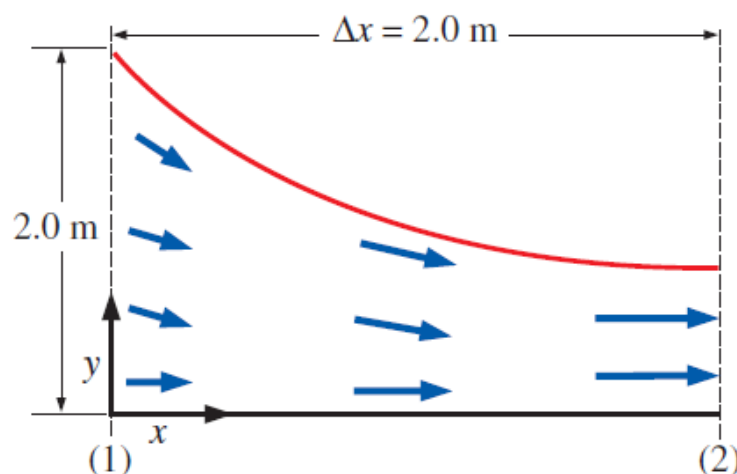

Figure 1 (b) - Converging duct, designed for a high-speed wind tunnel (not to scale).
*[Sila pastikan bahawa kertas peperiksaan ini mengandungi LAPAN (8) muka surat yang bercetak sebelum anda memulakan peperiksaan ini.]*
**Instructions:** Answer ALL **FIVE (5)** questions.
**Arahan:** Jawab **LIMA (5)** soalan]
1. (a) Define streamline and briefly describe THREE (3) of its main characteristics.
- (b) A two-dimensional converging duct is being designed for a high-speed wind tunnel [Figure 1(b)]. The bottom wall of the duct is to be flat and horizontal, whilst the top wall is to be curved in such a way that the axial wind speed increases approximately linearly from 100 m/s at section (1) to 300 m/s at section (2). Meanwhile, the air density decreases approximately linearly from 1.2 kg/m3 at section (1) to 0.85 kg/m3 at section (2). The converging duct is 2.0 m long with height of 2.0 m at section (1).